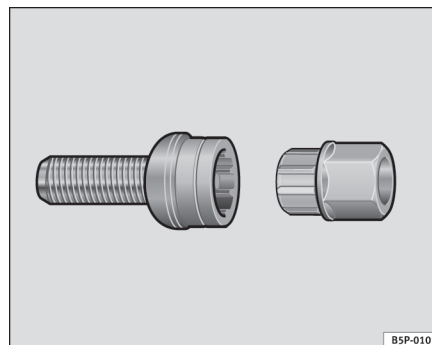

Fig. 173 Anti-theft wheel bolt
- Insert the adaptor onto the wheel bolt and push it on as far as it will go ⇒ page 245, fig. 173.